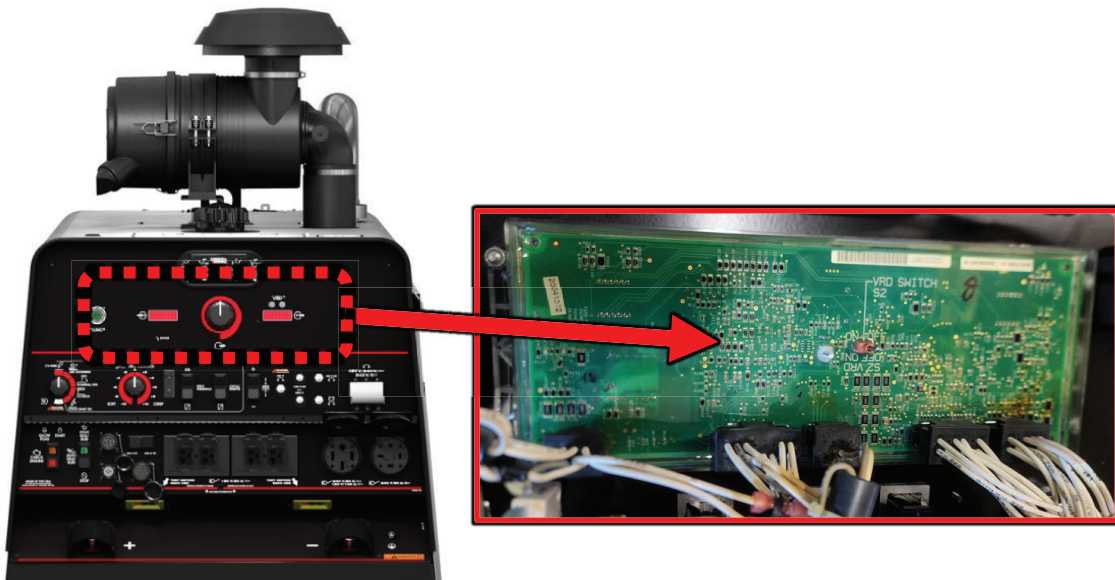

Figure F.1
1. For location of the CHUI Board refer to Figure F.1.